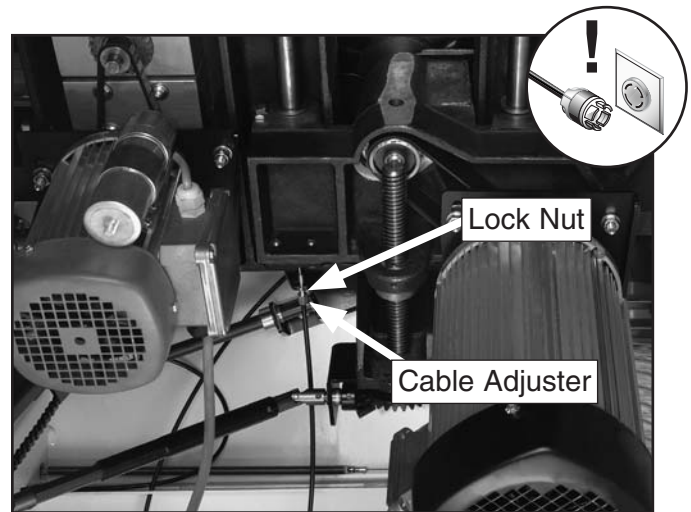

Figure 94. Blade height cable adjuster.
5. Remove the rear cabinet cover, locate the cable adjuster shown in **Figure 94**, loosen the lock nut, and turn the adjuster as needed until the indicator reads exactly 0".